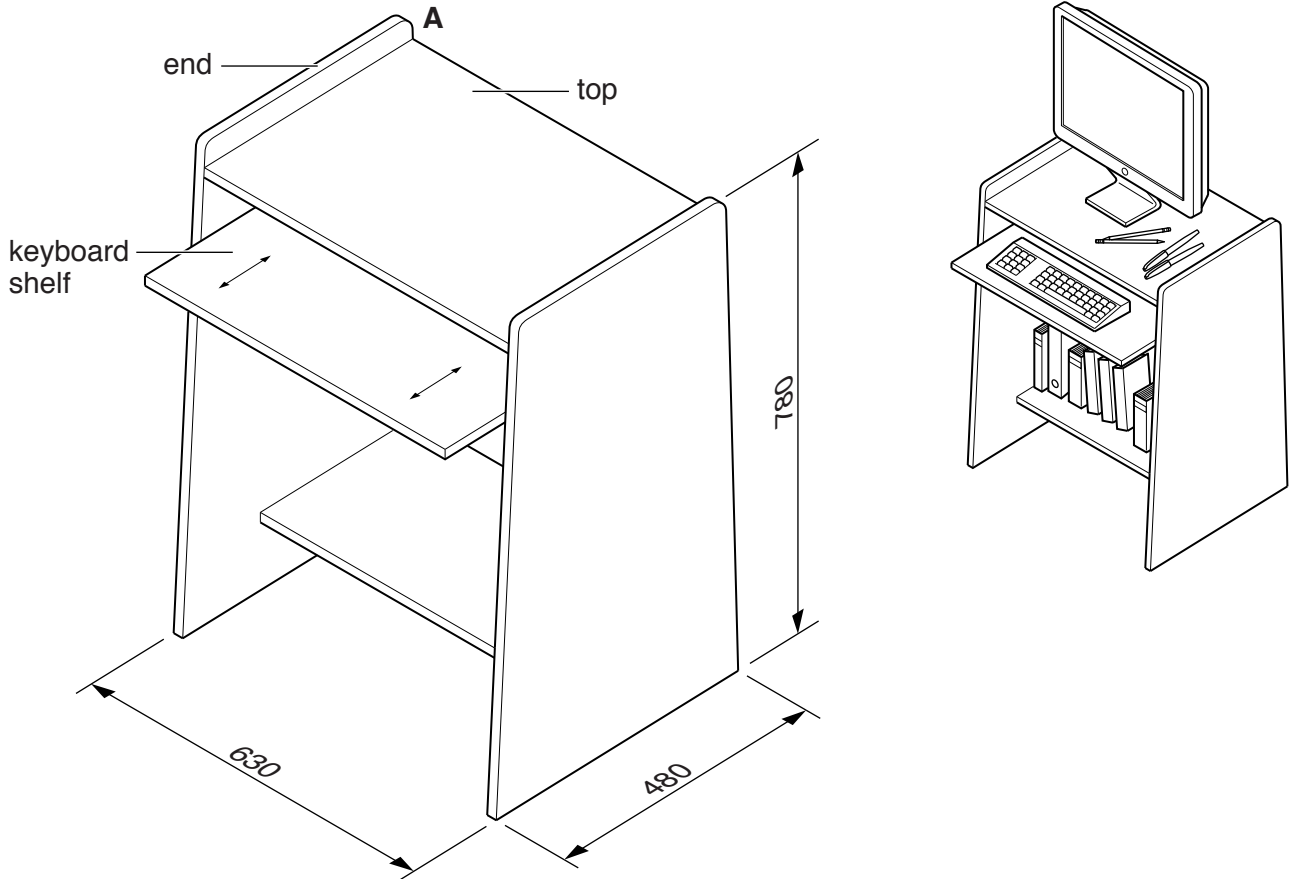

Fig. 7
- 11** Fig. 7 shows views of a computer desk made from 15 mm thick manufactured board. The computer desk will be sold as flat-pack furniture for self-assembly.
- (c) Use sketches and notes to show how the keyboard shelf could be made to move in and out as shown in Fig. 7. Include details of materials and constructions used.
(e) Evaluate the design of the computer desk shown in Fig. 7 in terms of: